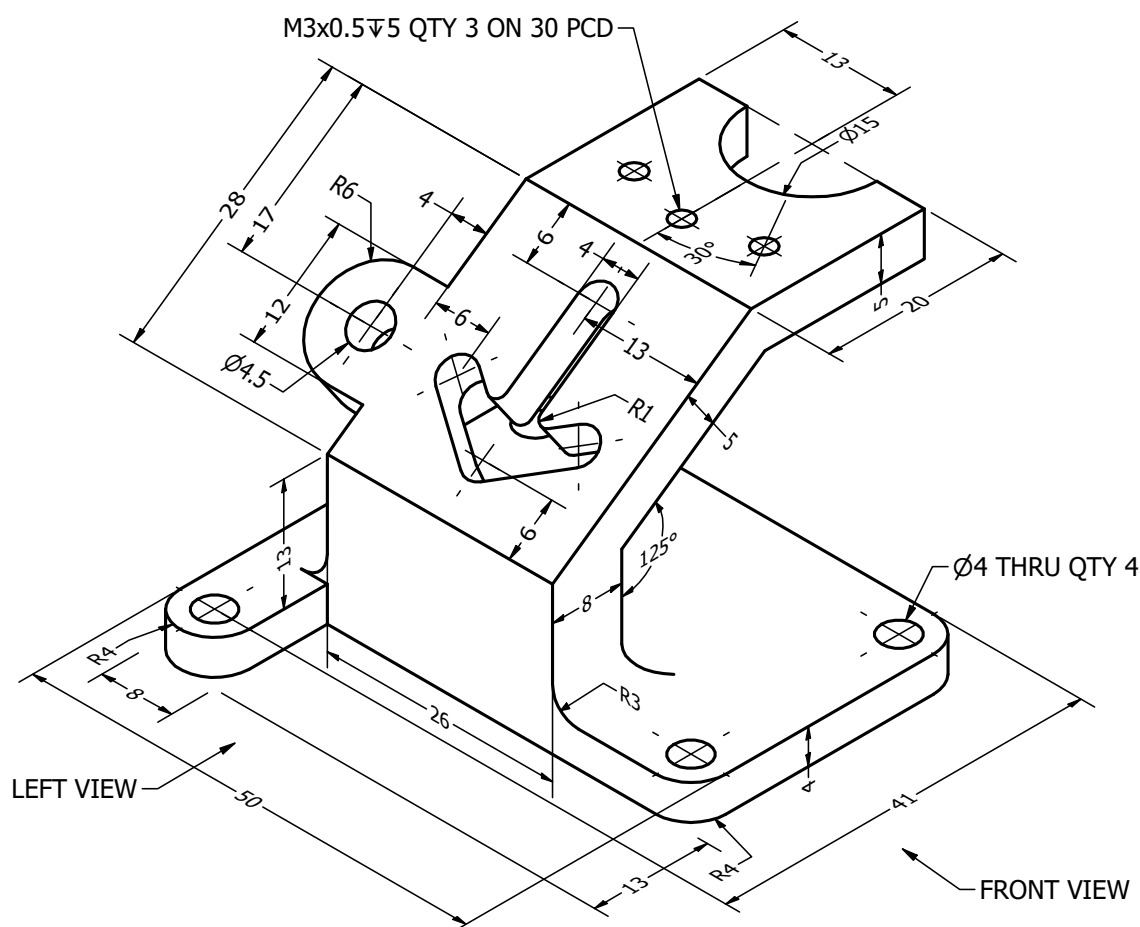

Figure 1: Question 1 geometry definition (Slide Guide & Jig).
Using AutoCAD (or 2D equivalent), draft an orthographic projection of the geometry shown in Figure 1. This drawing must contain:
3. A left side view as defined in Figure 1; and